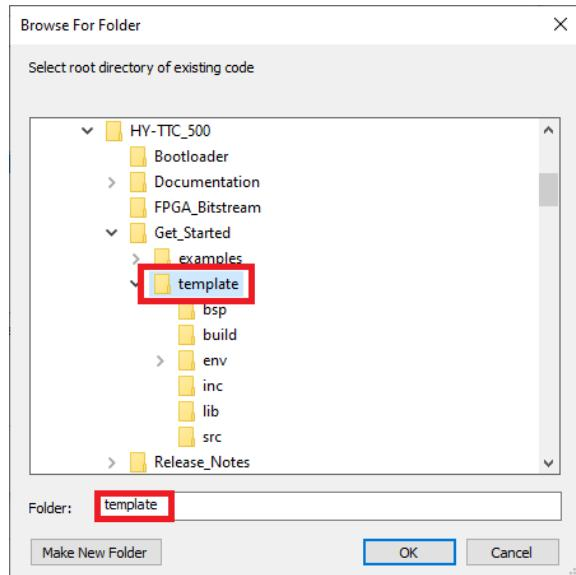

Figure 5.13: **Browse For Folder** dialog
- for **Existing Code Location**, select the template folder as shown in Figure 5.13 on page 26